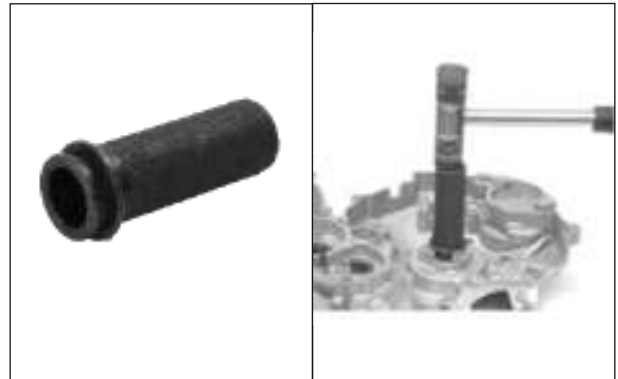

Fig. 1.16
- Put the tool along with the oil seal as shown in the figure and apply gently glows with a mallet to assemble oil seal.(Fig. 1.16)